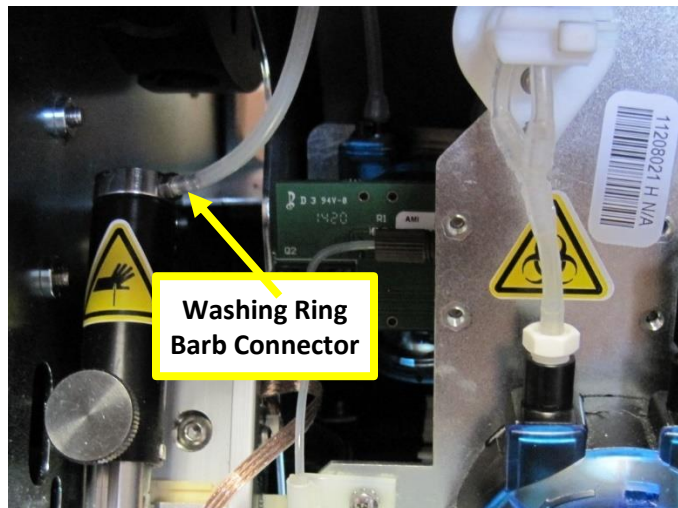

Figure 8
2. Remove the tube from the Washing Ring Barb connector. Figure 8